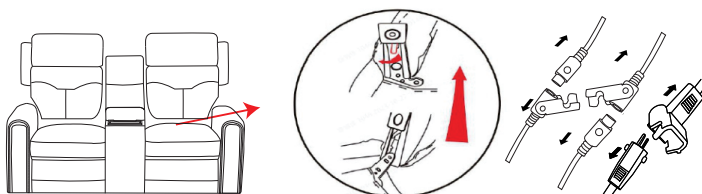

Figure 7
Unzip the zipper between Backs (A B) and Seat (D), then disconnect all the cables. Pull up the spring leaf in bracket, then lift Backs (A B) up. (See Figure 7.)